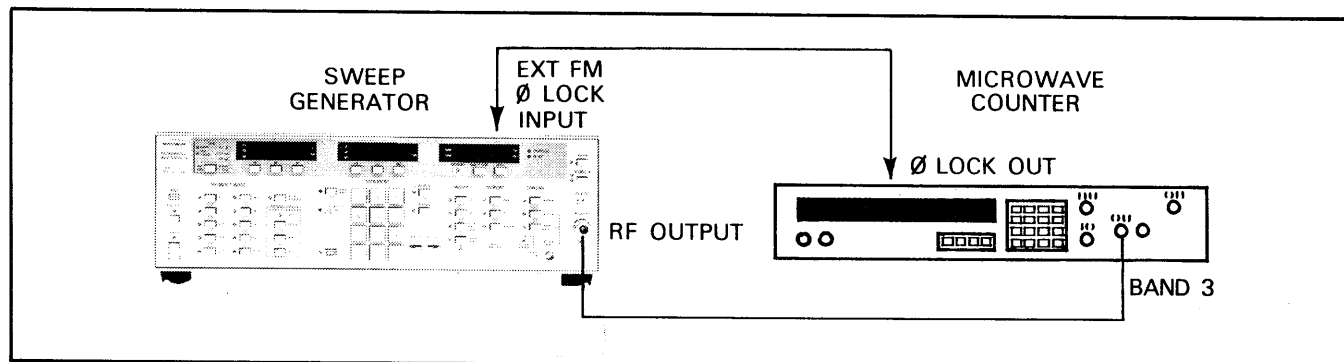
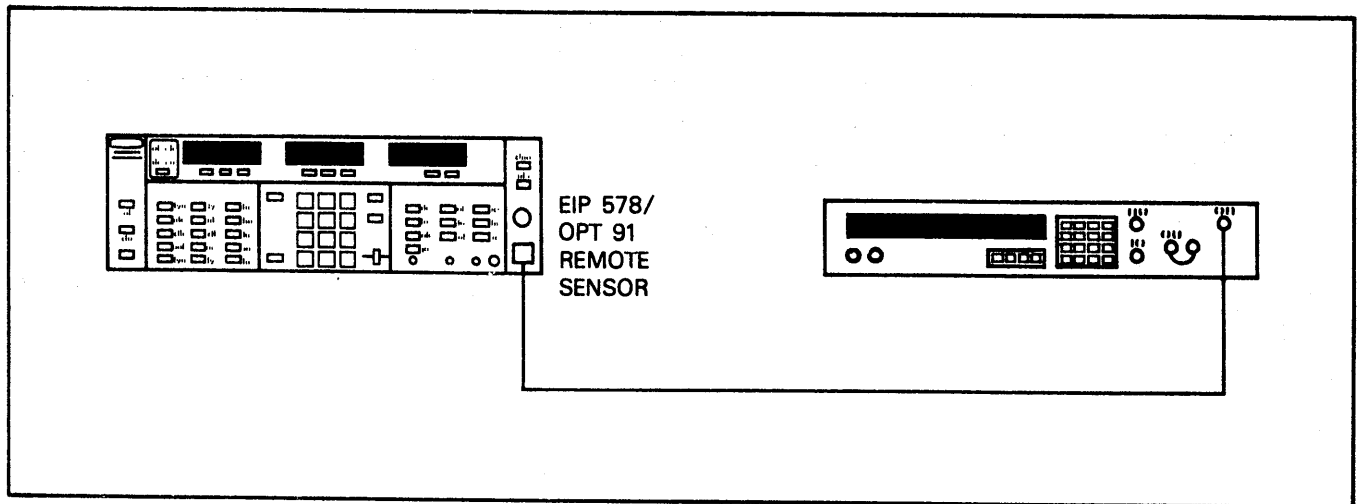

Figure 3-24. Test Setup for Operational Checkout of FREQUENCY VERNIER Controls (All models except 6642A)
Figure 3-25. Test Equipment Setup for Operational Checkout of FREQUENCY VERNIER Controls on Model 6642A, 26.5-40 GHz Band
The test setup for operationally checking the FREQUENCY VERNIER controls and phase-lock operation for all models except 6642A is shown in Figure 3-24; the test setup for the 6642A is shown in Figure 3-25; the checkout procedure is given in Table 3-6.
1. Connect test equipment as shown in Figure 3-24 or 3-25.
9. Disconnect the RF detector from between the sweeper and the directional coupler; in its place, connect the power meter as shown by the dashed lines in Figure 3-24.